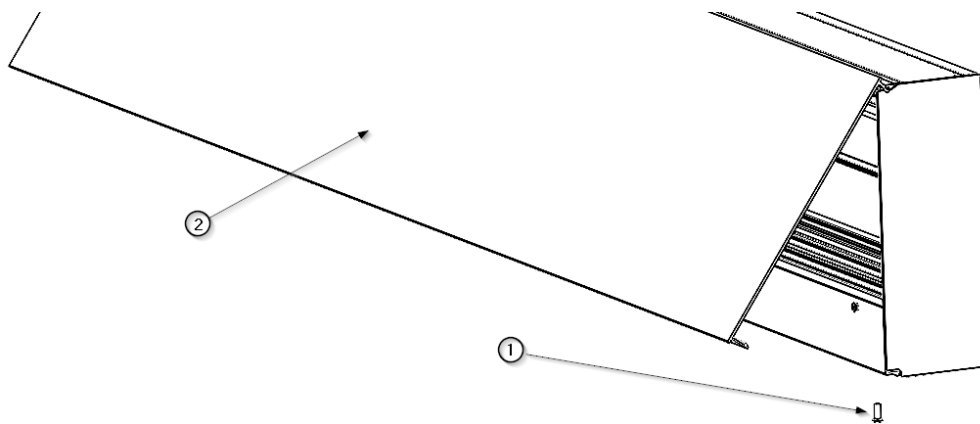

Fig.1 Removing the hinged front cover
- Remove the screw ① to be able to remove the hinged front cover ② as shown in figure 1.